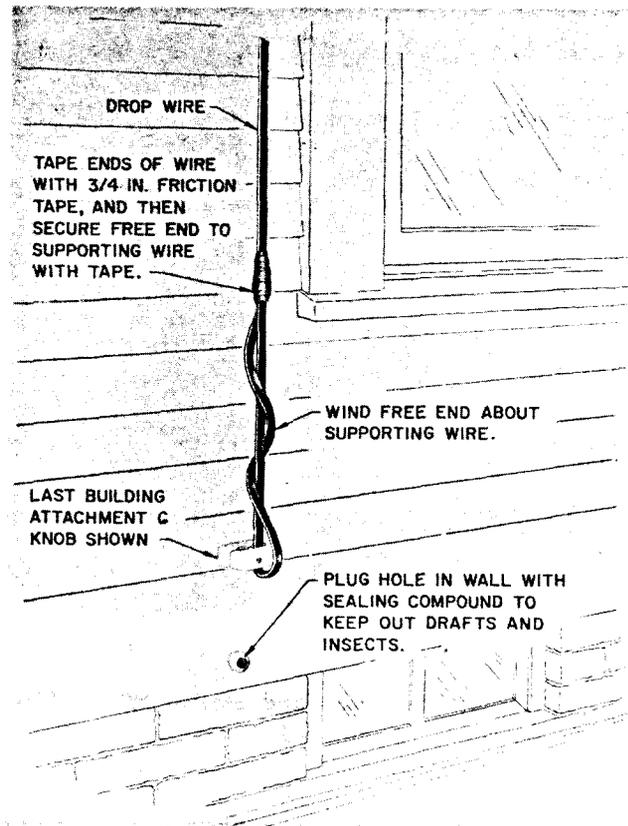

Fig. 1—Terminating Drop Wire When Protector is Removed
3.01 Where drop loop terminates on station protector or connecting block inside the subscriber building, disconnect the drop at station protector or connecting block and pull it out of the building entrance hole. Secure wire as shown in Fig. 1.
4.01 Cut drop wire at entrance hole. Serve and tape the free end as shown in Fig. 1.